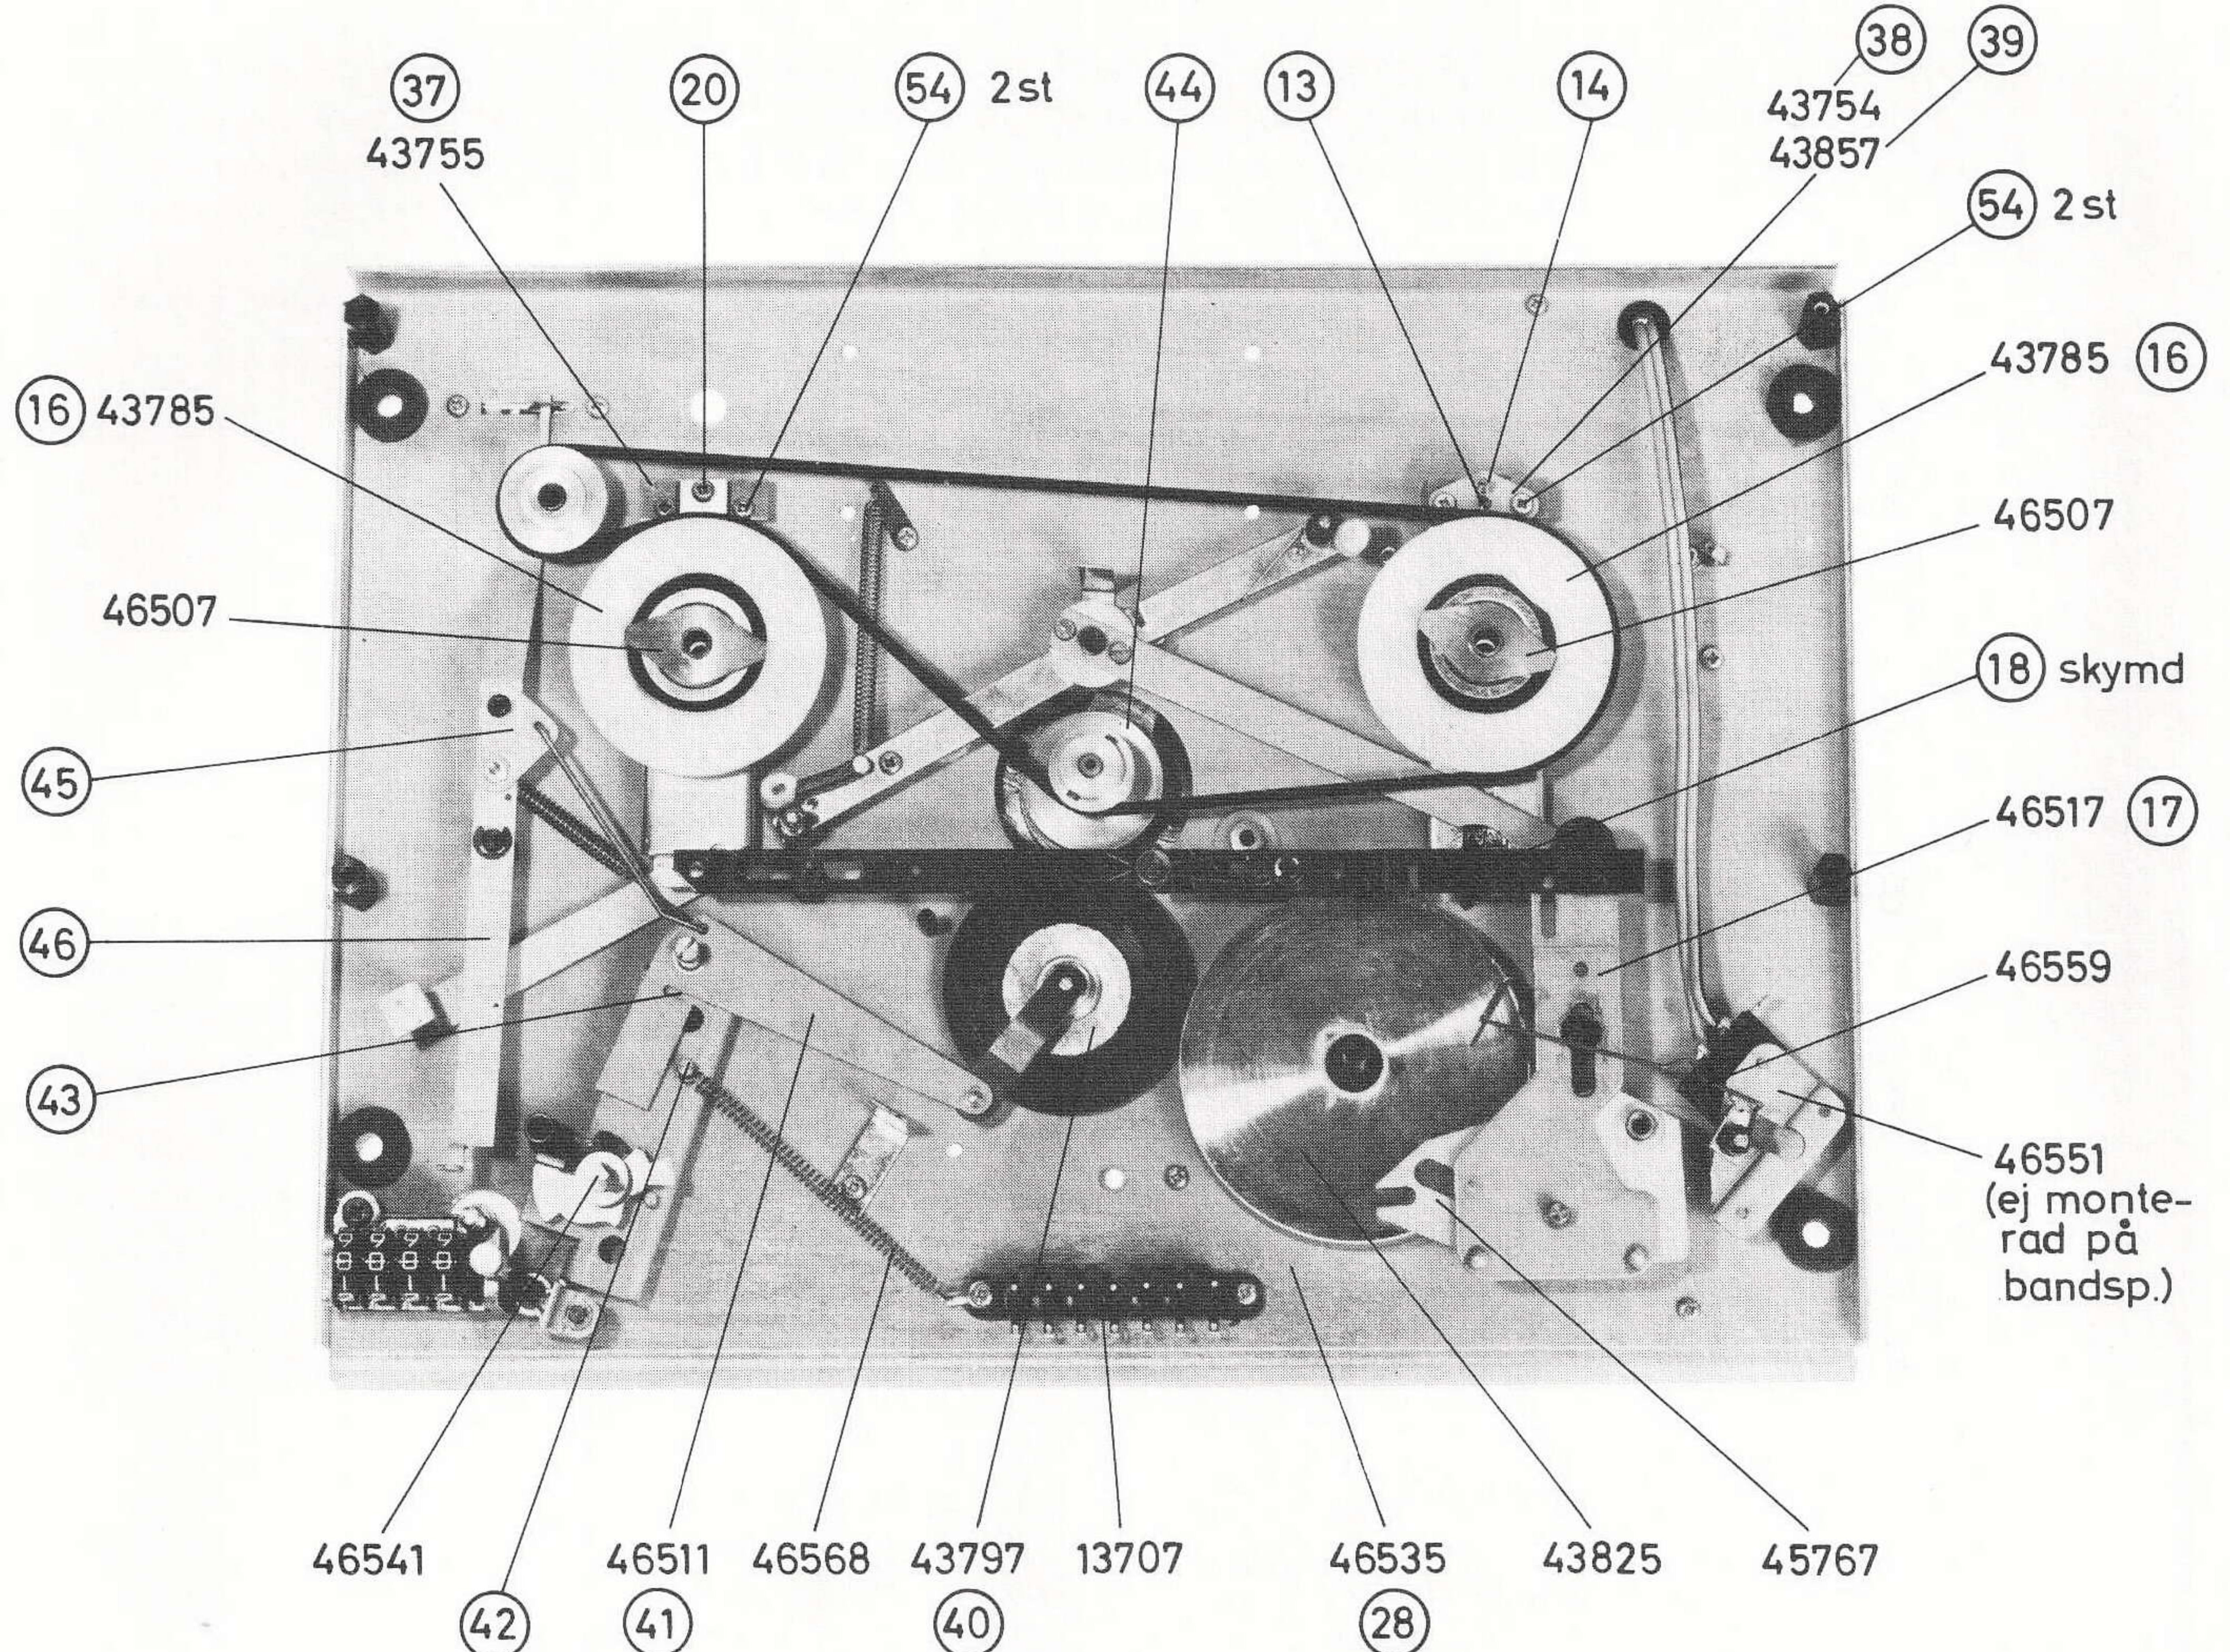
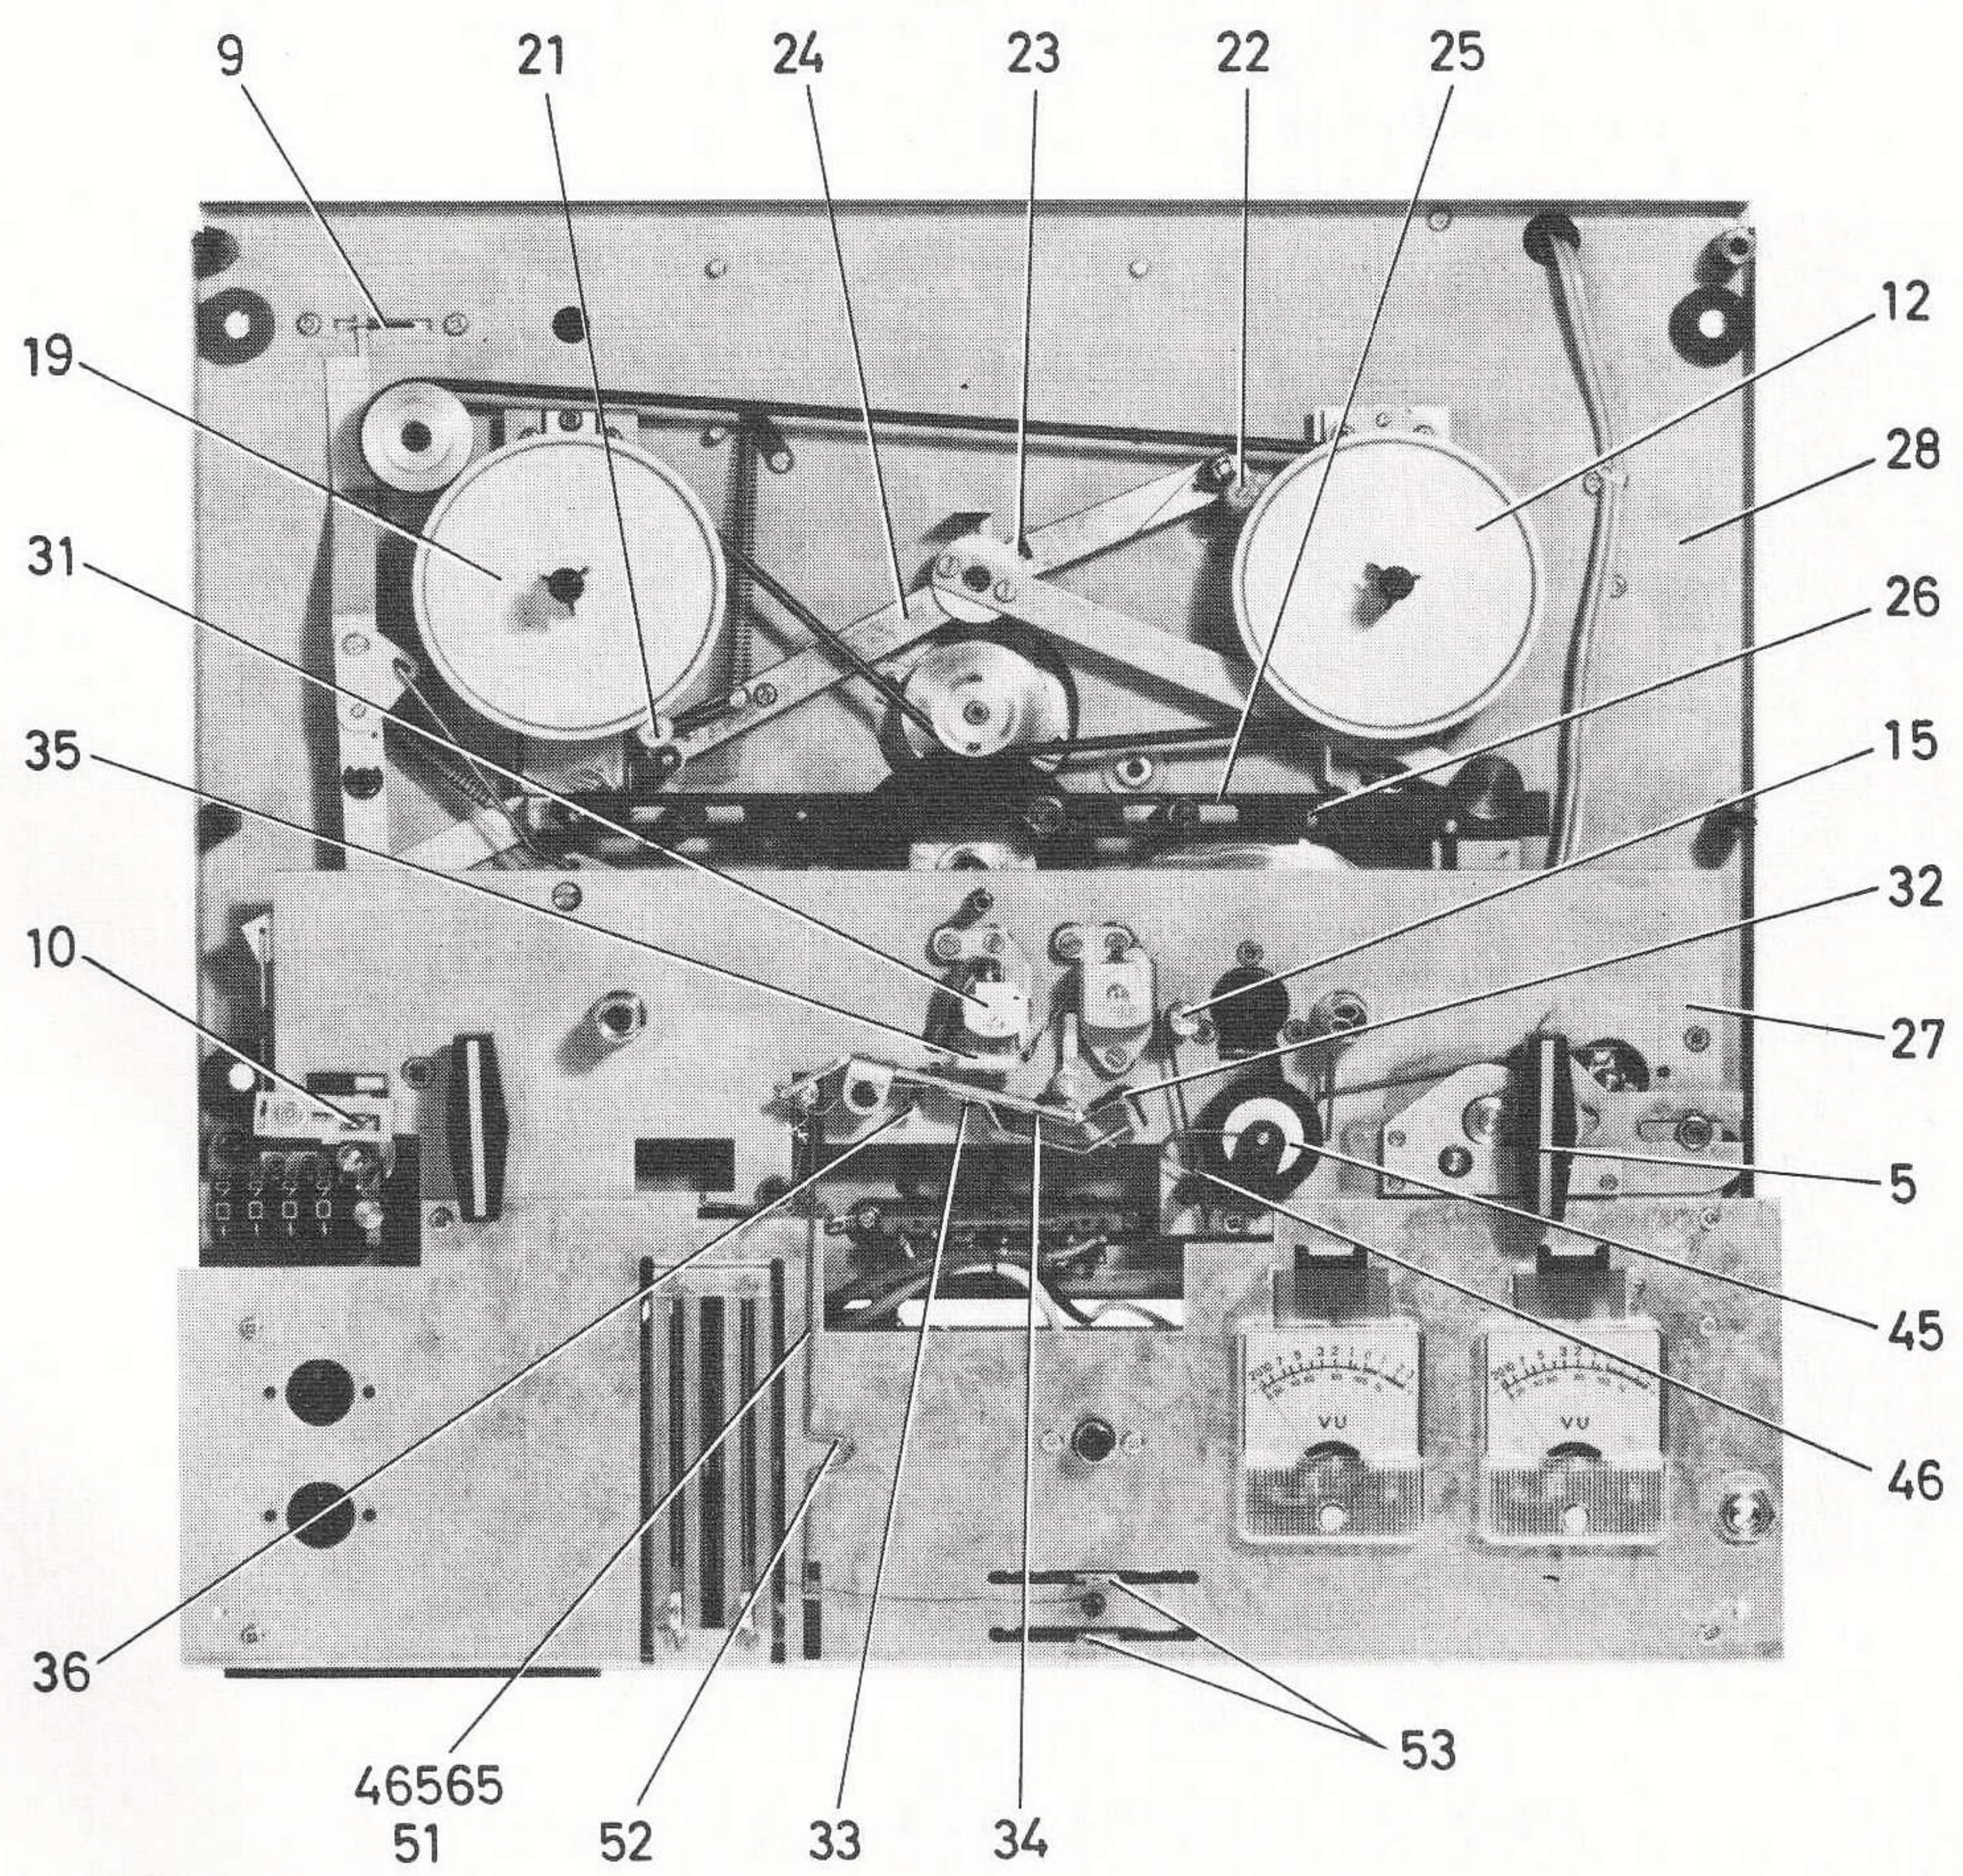

Fig. 3
Fig. 4
DÄREMOT SKALL MANÖVERKNAPPEN (8) FÖR STRÖMSTÄLLAREN (9) FIG 4 EJ TAGAS BORT ENÄR DEN ÄR FÄSTAD I TÄCKPLATTAN. VID ÅTERMONTERING MÅSTE MAN TILLSE ATT DENNA KNAPP FÅR SAMMA LÄGE, SOM STRÖMSTÄLLARENS SPAK (10) FIG 4 SÅ ATT DENNA LÄTT GLIDER IN I MANÖVERKNAPPENS ÖPPNING UNDERTILL.
ANVÄND EN TOMSPOLE MED EN INRE DIAMETER AV 57 MM, PÅ VILKEN ÄR UPP-LINDAD EN BIT SKALLINA. DENNA SPOLE PLACERAS PÅ BANDSPELARENS HÖGRA SPOLHJUL (12) FIG 4, VAREFTER LINANS FRIA ÄNDE FÄSTES I EN FJÄDERVÅG. (SPÄRRA DET AUTOM. STOPPET MED EN BIT PAPPER ELLER DYL.) VRID MANÖVERVREDET (5) (UTAN ATT TRYCKA IN DET) TILL LÄGE NORMALT FRAM ("FORW") OCH JUSTERA MED JUSTERSKRUVEN (13) FIG 3 TILLS FJÄDERVÅGEN VISAR  $60 \pm 5$  GRAM. VRID SEDAN VREDET (5) FIG 4 TILL LÄGE STOPP ("STOP"), TRYCK IN OCH VRID DET TILL LÄGE SNABBT FRAM ("FF"). JUSTERA MED JUSTERSKRUVEN (14) TILLS VÅGEN VISAR  $200 + 20$  GRAM. I BÅDA FALLEN SKALL MÄTNINGAR SKE MED APPARATEN STÅENDE OCH LINAN I LODRÄTT LÄGE.
KONTROLLERA ATT ETT AVSTÅND AV 0,5 - 0,7 MM FINNES MELLAN SPOLHJULETS (12) FIG 4 FRIKTIONSFILT OCH REMSKIVANS (16) FIG 3 ÖVRE FRIKTIONSYTA. (GÄLLER ÄVEN VÄNSTER SIDA.) OM SÅ ERFORDRAS GÖRS FÖLJANDE JUSTERINGAR:
PÅ MANÖVERARM (17) FIG 3 FINNS EN JUSTERMUTTER (18). AVSTÅNDET ÖKAS GENOM ATT SKRUVA NED JUSTERMUTTERN. MANÖVERVREDET (5) SKALL STÅ I STOPPLÄGE ("STOP"), DÅ DENNA JUSTERING GÖRES.
FÖR DETTA ANVÄNDES SAMMA MÄTANORDNING, SOM UNDER PKT 1. SPOLEN MED LINAN PLACERAS PÅ APPARATENS VÄNSTRA SPOLHJUL (19) FIG 4, VAREFTER DEN FRIA ÄNDAN FÄSTES I EN FJÄDERVÅG. TRYCK IN VREDET (5) OCH VRID DET TILL LÄGE "REW". JUSTERA MED JUSTERSKRUVARNA (20) FIG 3 TILLS FJÄDERVÅGEN VISAR  $200 + 20$  GRAM.
STOPPBROMSARNA JUSTERAS SÅ ATT DÅ MANÖVERVREDET (5) FIG 4 STÄLLES I LÄGE SPELNING ("FORW") SKALL BROMSKLOTSARNA (21) OCH (22) LIGGA 0,3 - 0,5 MM FRÅN YTTERKANTEN PÅ SPOLHJULEN (12) OCH (19). EN AVVIKELSE MELLAN HÖGER OCH VÄNSTER HJUL JUSTERAS MED BOCKNING I SPÅRET (23) PÅ BROMSARMEN (24). STÄLL DÄREFTER MANÖVERVREDET I LÄGE SNABBT FRAM ("FF") OCH JUSTERA MANÖVERARMEN (25) I SPÅRET (26) SÅ ATT OVAN NÄMND A AVSTÅND ERHÅLLES ÄVEN I DETTA LÄGE. KONTROLLERA ATT AVSTÅNDEN I LÄGE ÅTERSPOLN. ("REW") EJ ÄR MINDRE ÄN 0,3 MM.
DEN JUSTERBARA BANDSTYRNINGEN (15) FIG 4 INSTÄLLES I HÖJDLED SÅ ATT TONBANDET PASSERAR RAKT GENOM SAMTLIGA BANDSTYRNINGAR OCH FÖRBI RADÉRHUVUDET UTAN ATT PÅ NÅGOT STÄLLE VARE SIG TVINGAS UPP ELLER NED. RADÉRHUVUDETS LÖPYTA SKALL STÅ I RÄT VINKEL MED MANÖVERPLÅTEN (27). SE VIDARE UNDER PKT. 7.
LAGERBUSSNINGARNA FÖR HÖGER OCH VÄNSTER SPOLHJUL (12) OCH (19) KAN VID BEHOV RIKTAS I FÖRHÅLLANDE TILL MONTERINGSPLÅTEN (28) FIG 4 SÅ ATT BANDET SPOLAS I RÄTT HÖJD PÅ BANDSPOLARNA. BUSSNINGARNA RIKTAS MED EN KRAFTIG MEJSEL, SOM SÄTTES IN PÅ LÄMPLIGT STÄLLE I NÅGOT AV DE CIRKULÄRA SPÅREN KRING LAGERBUSSNINGARNA. GENOM EN BRYTNING I SIDLED PÅ SKRUVMEJSELN KAN NU DE FYRA EKRAR, SOM HÅLLER LAGERBUSSNINGEN, DEFORMERAS SÅ ATT EN ÄNDRING AV BANDSPOLNINGEN ERHÅLLES. I VILKET SPÅR MEJSELN SKALL SÄTTAS SAMT ÅT VILKET HÅLL DEN SKALL BRYTAS ÄR BEROENDE AV HUR BANDET LINDAR OCH FÅR BEDÖMAS FRÅN FALL TILL FALL. EFTER DENNA JUSTERING FÅR BANDET EJ SPOLAS NÄRMARE NÅGON AV BANDSPOLENS FLÄNSAR ÄN 0,3 MM.
TONHUVUDETS TRYCKKUDDE (32) FIG 4 JUSTERAS FÖRST I SIDLED EFTER LOSSNING AV SKRUVARNA (33) OCH (34) SÅ ATT DEN KOMMER MITT FÖR HUVUDETS KÄRNPLÅTAR, VAREFTER SKRUVEN (33) DRAS TILL. SEDAN JUSTERAS KUDDARNAS TRYCK MEDELST SKRUVEN (34) MOT TONHUVUDET SÅ ATT DET FORDRAS EN KRAFT AV 25 POND ATT FÖRA ETT TONBAND FÖRBI HUVUDET. SLUTLIGEN JUSTERAS RADÉRHUVUDETS (31) TRYCKKUDDE (35) MED SKRUVEN (36) SÅ ATT FRIKTIONSKRAFTEN MÄTT PÅ SAMMA SÄTT UPPGÅR TILL 50 + 2 POND DÅ BANDET POSERAR BÅDE RADÉR- OCH TONHUVUD.
MANÖVERFJÄDRARNA (37), (38) OCH (39) FIG 3 MONTERAS SÅ ATT FJÄDRARNAS RÖRELSER I HÖJDLED EJ HINDRAS. SE DÄREFTER TILL ATT FJÄDRARNA HÅLLES I NEUTRALT LÄGE DÅ DERAS FÄSTSKRUVAR (54) ÅTDRAGES.
MED VREDET (4) FIG 1 FÖR HASTIGHETSINSTÄLLNING I LÄGE 19 CM/SEK KONTROLLERAS ATT MELLANHJULET (40) FIG 3 LIGGER PARALLELLT MED MONTERINGSPLÅTEN (28) OCH ATT MELLANHJULETS LAGERTAPP LIGGER PÅ ETT AVSTÅND AV 0,5 - 1,0 MM FRÅN DENNA PLÅT. VID BEHOV BOCKAS MELLANHJULETS MANÖVERARM (41) UPP ELLER NED. KONTROLLERA ÄVEN MED VREDET (4) FIG 1 I SAMTLIGA TRE LÄGEN ATT SPEL FINNS MELLAN TAPPEN (42) FIG 3 OCH MELLANHJULETS MANÖVERARM (41). DETTA SPEL KAN JUSTERAS IN GENOM BOCKNING AV MANÖVERARMEN (41) I SPÅRET (43). SPELET SKALL HÅLLAS MELLAN 1 OCH 2 MM. DÅ STRÖMSTÄLLAREN SLÅS IFRÅN MED SPAKEN (8) FIG 1 SKALL MELLANHJULET LYFTAS UT 1-3 MM FRÅN DRIVRULLENS (44) FIG 3 DRIVBANA FÖR 19 CM/SEK. JUSTERAS GENOM VRIDNING AV JUSTERPLÅTEN (45) PÅ MANÖVERARM (46).
MOTORNS DRIVRULLE (44) FIG 3 JUSTERAS I HÖJDLED SÅ ATT DÅ VREDET (4) FIG 1 STÅR I LÄGE 4,75 CM/SEK SKALL ETT SPEL AV 1,5 MM FINNAS MELLAN UNDER KANTEN AV MELLANHJULETS GUMMIBANA OCH ÖVRE KANTEN AV DRIVRULLENS DRIVBANA FÖR 9,5 CM/SEK. MEDAN RULLEN HÅLLES I RÄTT LÄGE ÅTDRAGES EN AV DESS SKRUVAR LÖST, VAREFTER DEN ANDRA SKRUVEN ÅTDRAGES HÅRT.
12) MONTERING AV TRYCKRULLEN (45) FIG 4.
VID MONTERING OCH DEMONTERING AV DE TVÅ FJÄDRARNA (46) FIG 4 SKALL STOR FÖRSIKTIGHET IAKTTAGAS SÅ ATT DE EJ DEFORMERAS, VILKET KAN MEDFÖRA ATT DET BLIR FÖR LÅG FJÄDERKRAFT ELLER ATT KRAFTERNA BLIR OLIKA STORA UPPE OCH NERE, VARVID BANDFÖRINGEN FÖRSÄMRAS MED HÖGRE SVAJVDEN SOM FÖLJD.
13) JUSTERING AV SPÄRREN FÖR STRÖMSTÄLLAREN (9)
UTLÖSNINGSTRÅDEN (51) FIG 4 TILLÅTER FUNKTIONSKOPPLAREN (53) ATT ÅTERGÅ TILL UTGÅNGSLÄGE EFTER EN INSPELNING DÅ VREDET (5) FÖRES TILL STOPPLÄGE ("STOP"). JUSTERA SÅ ATT FUNKTIONSKOPPLARSPAKARNA SÄKERT SPÄRRAS I LÄGE "REC" GENOM BOCKNING AV UTLÖSNINGSTRÅDENS JUSTERSLINGA (52).